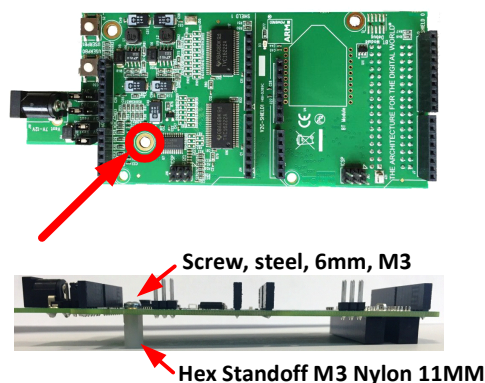

Figure 3-3 Plastic standoff
3. Install plastic standoff (Hex Standoff M3 Nylon 11MM) on Adapter board and fix it with screw (Screw, steel, 6mm, M3) (Figure 3-3).